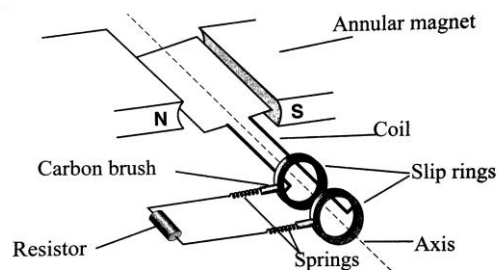

Figure 2: AC generator.
- **Figure 2** shows an illustration of an AC generator.
- In this generator, the split rings are replaced by two separate slip rings attached to each end of the coil. (see **Figure 2**)